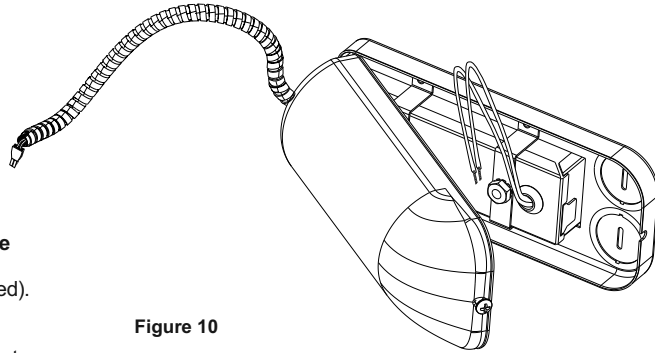

Figure 10
Step 2. Remove wiring compartment cover. Remove the appropriate knock-out(s) to accommodate the type of electrical supply being used (Fig. 10).
Step 3. Strip supply wire 3/8" and insert each supply wire into appropriate connector. Connect black fixture wire to hot, white fixture wire to neutral, and green fixture wire to ground (Fig. 10).